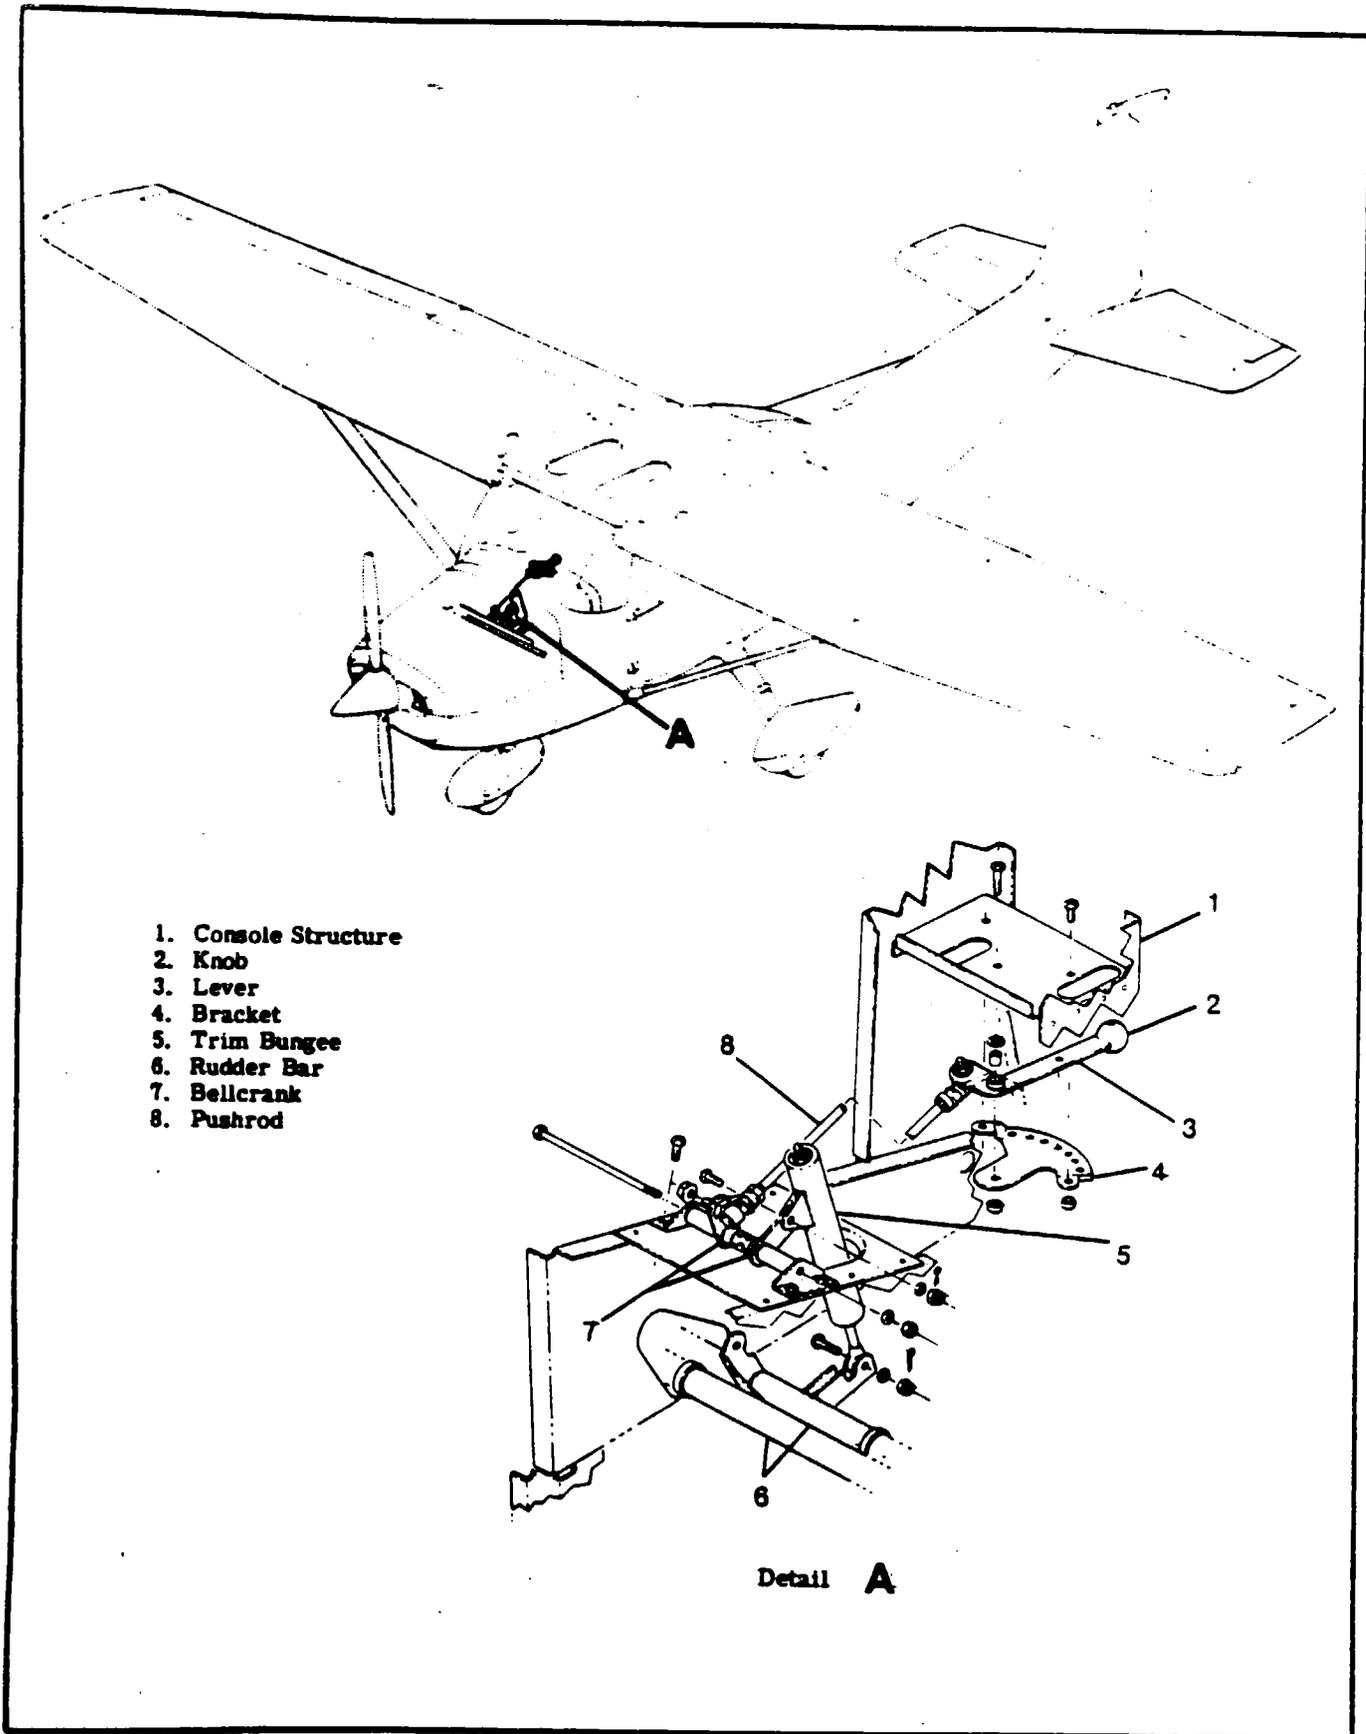

Figure 10-5. Rudder Trim Control System
- 10-12. **RUDDER TRIM CONTROL SYSTEM.** (See figure 10-5.)
- 10-14. **RIGGING.** (See figure 10-5.)
- d. Install bungee (5) between rudder bar (6), and bellcrank (7) as shown in figure 10-5, detail A.
- e. Make sure lever assembly (3) is in neutral position or center hole of bracket (4).
- f. Adjust ball ends of push rod (8) so that ball end studs align with holes in bellcrank (7) and lever assembly (3) and install push rod.